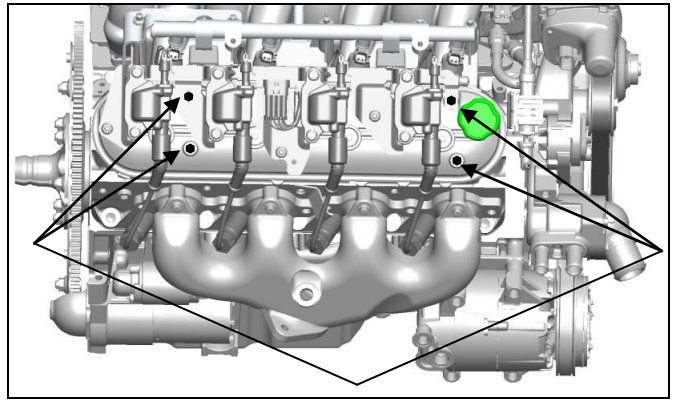

Figure 7
- C. After final assembly, tighten the original cap in the fill tube and place the supplied decal with the Holley text oriented to the engine (**Figure 7**). Prior to applying the decal, thoroughly clean the fill cap and make certain the temperature is greater than 50°F (10°C).